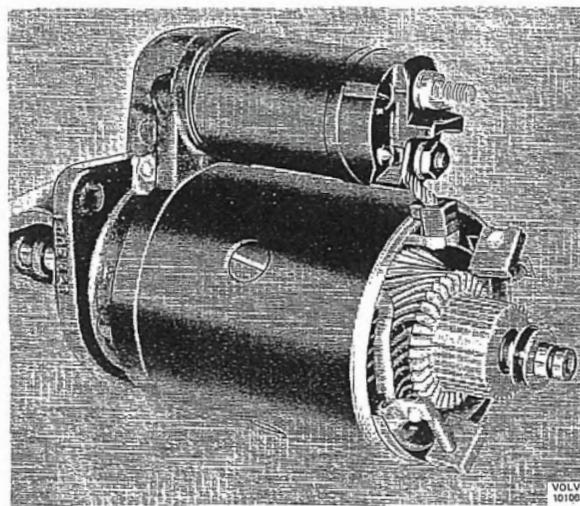

Fig. 3-60. Starter motor with brush bridge removed
5. Remove the brush bridge from the rotor shaft. **NOTE.** The washers are as shown in Fig. 3-60. When the bridge is removed, the negative brushes follow also, but the positive brushes will remain in the field winding.
8. Fit the washers on the armature shaft as shown in Fig. 3-60.